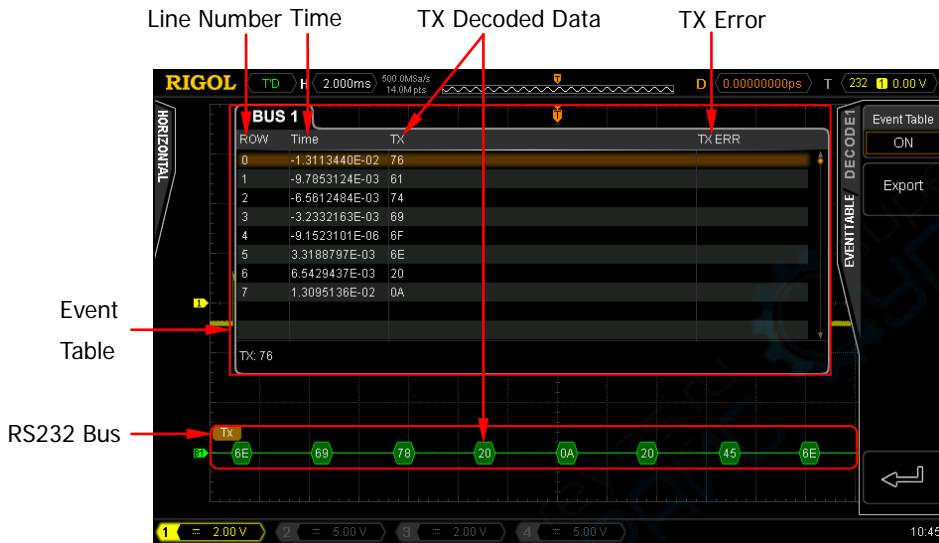

Figure 7-3 RS232 Decoding
Press **BusStatus** to turn the Decode1 display on or off. You can also press **Decode1** to switch the current on/off status of the Decode1 display. When the bus display is turned on, the interface is as shown in Figure 7-3.
- 1) Press **Event Table** to turn on or off the event table. When the event table is turned on, the interface is as shown in Figure 7-3.